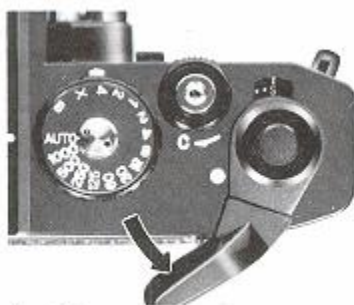
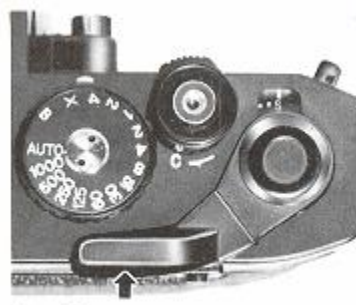

Fig. 15
Fig. 16
1. When Film Advance Lever (13) is moved to "ON" position (**Fig 15**). Shutter Release Button (11) is unlocked.
2. When Shutter Release Button (11) is pressed half way down, the electric circuit is switched on and Exposure Meter Needle (48) in the viewfinder starts to move.
Tips for Better Results * Whenever picture-taking is completed, be sure to move Film Advance Lever (13) to "OFF" position (**Fig. 16**).
- * To prevent unnecessary consumption of the batteries, do not press Shutter Release Button (11) often.